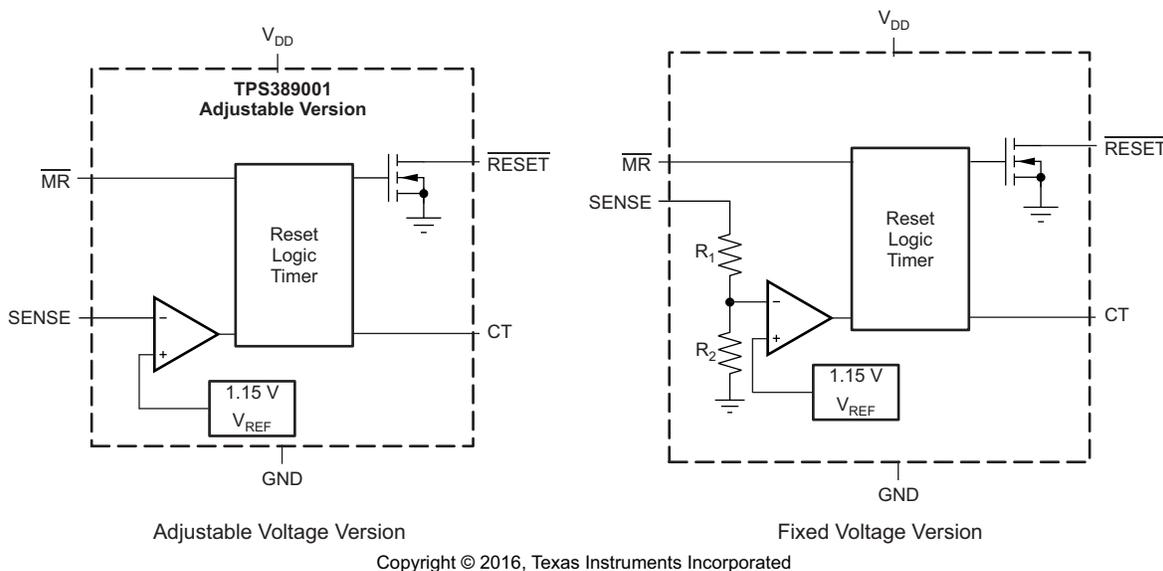

Figure 4. TPS3890 Voltage Supervisor Block Diagram (Left: Adjustable, Right: Fixed)
This section discusses devices that integrate the voltage reference and comparator into an IC called a voltage supervisor (sometimes called reset IC). Voltage supervisors are devices that monitor a voltage rail through the VDD or SENSE input pins, and trigger a fault signal at the $\overline{\text{RESET}}$ or SENSE_OUT output pins when the monitored voltage falls outside of the configured range. Voltage supervisors have features and options that aren't available in the basic discrete solutions mentioned above such as programmable reset delay, built-in hysteresis, manual reset (MR) / enable (EN), multichannel monitoring, window voltage monitoring, and various output topologies in a small package size. A typical voltage supervisor block diagram is shown in Figure 4.
The voltage threshold for a voltage supervisor can be set with external resistors as shown on the left of Figure 4 or can be integrated into the device to monitor a common fixed voltage as shown on the right. Multiple comparators can be integrated into the device for multichannel voltage monitoring saving space and component count. Voltage supervisors come in a variety of sizes based on the features included and the package type.